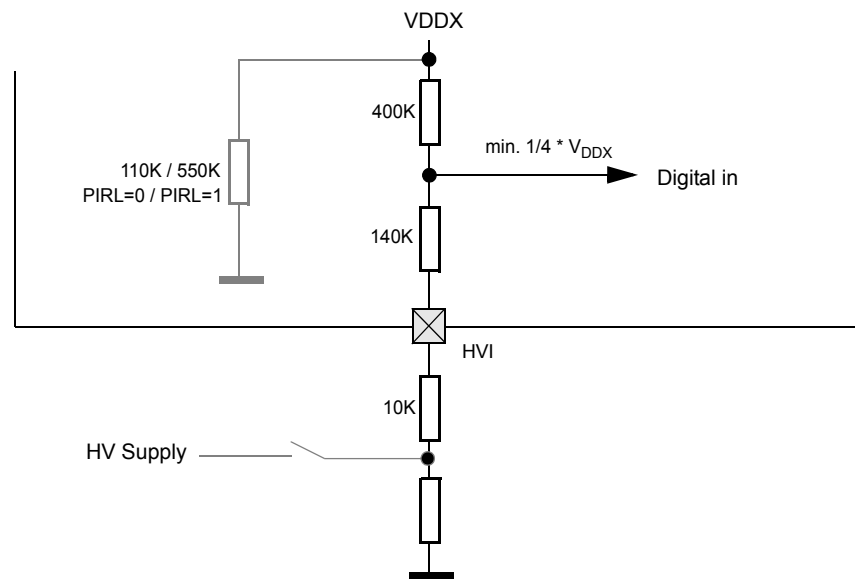

Figure 2-36. Digital Input Read with Pullup Enabled
2.5.4.1 External pulldown device (Figure 2-36):